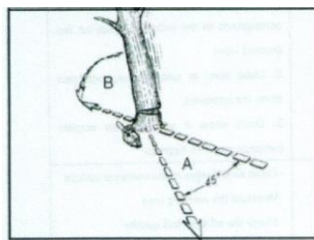

Fig. 9
1. Create and plan an escape route (Fig. 9-A) in the opposite direction from the intended line of fall (Fig. 9-B).